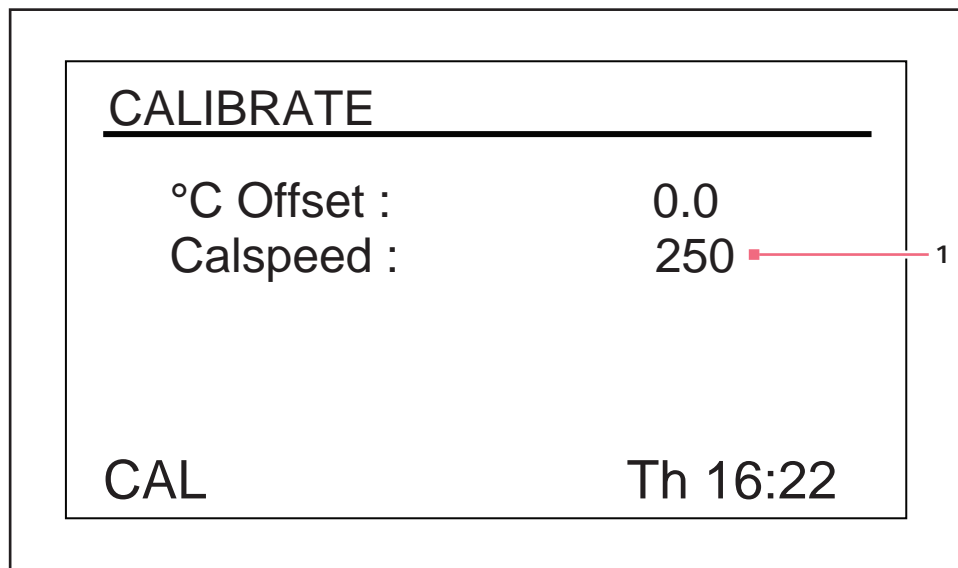

Fig. 9-15: Calibrate screen
1. Use the control knob to enter the *CAL* screen (see Fig. 9-15 on p. 63).
The **Calspeed** function, which is set in the **CAL** screen (see Fig. 9-15 on p. 63), is used to calibrate the speed of the shaking mechanism. Calibrated at the factory, speed does not need to be recalibrated until a major operating component (e.g. drive belt) is changed.